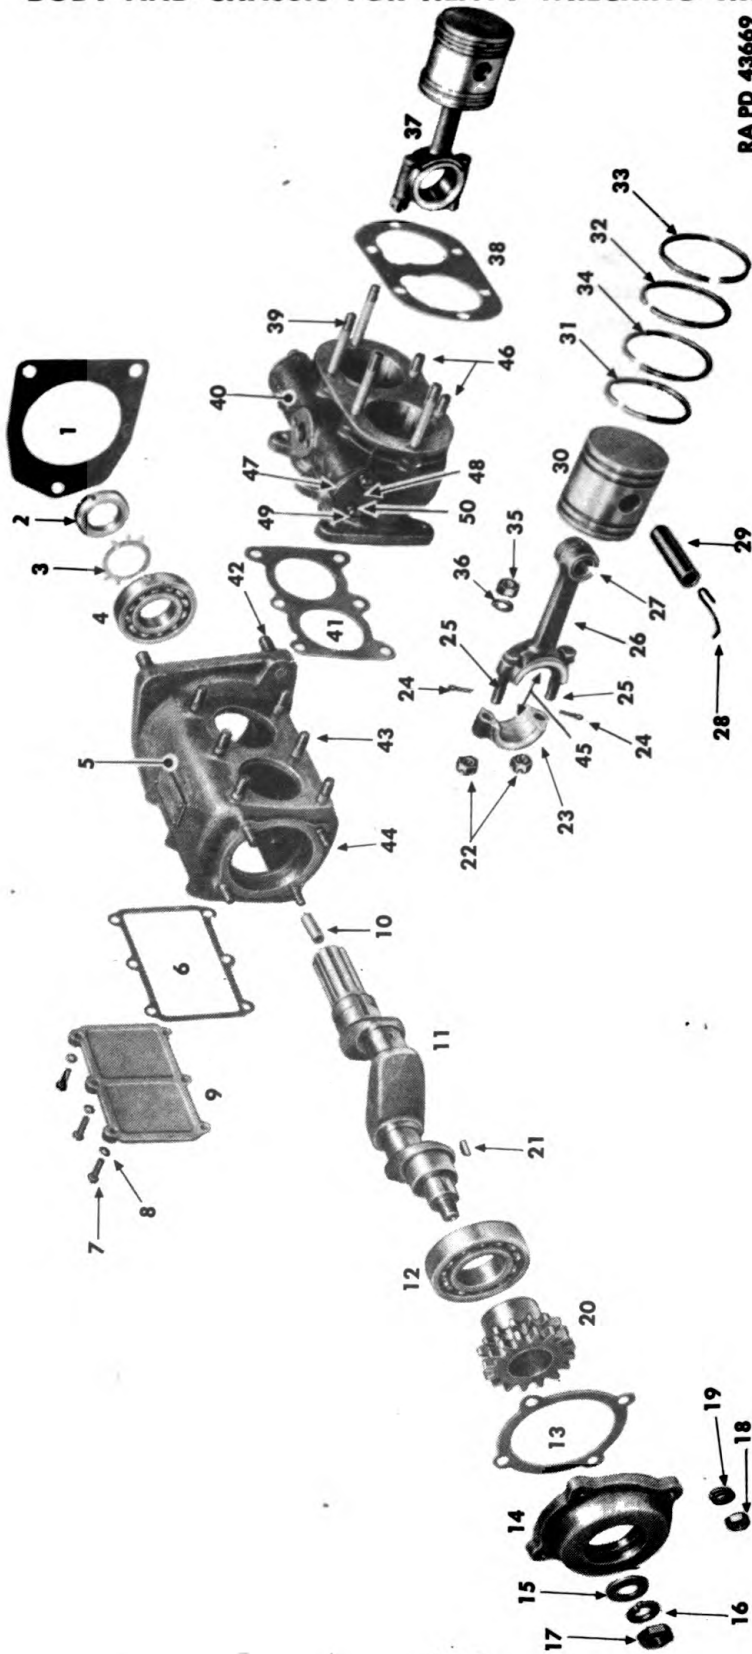

Figure 37 —Crankcase and Cylinder—Exploded View
(a) Install air manifold cover gasket (47, fig. 37) and air manifold cover (48, fig. 37). Fasten with two air manifold cover cap screw lock washers and cap screws (screwdriver).
(a) Install new cylinder to crankcase gasket (41, fig. 37) on crankcase and install cylinder on crankcase.
(a) Lubricate crankshaft front and rear ball bearings (4 and 12, fig. 37) with engine oil, and install crankshaft front ball bearing on crankshaft (hydraulic press). Install crankshaft in crankcase and press the crankshaft rear ball bearing in crankcase (hydraulic press).
(b) Tap crankshaft drive gear key (21, fig. 37) in crankshaft (soft hammer).
(c) Slide crankshaft drive gear flat washer (15, fig. 37) and crankshaft drive gear nut lock washer on rear end of crankshaft.
(d) Install new crankshaft rear bearing cap gasket (13, fig. 37), and install crankshaft rear bearing cap on crankshaft rear bearing cap studs.
(e) Install crankshaft drive gear (20, fig. 37) on crankshaft (hydraulic press). Install crankshaft drive gear nut (17, fig. 37) on rear end of crankshaft ($\frac{3}{4}$ -in. socket wrench).
(f) Slide crankshaft bearing nut lock (3, fig. 37) on front end of crankshaft and tap crankshaft bearing nut (2, fig. 37) on crankshaft (hammer and soft drift).
(j) Insert crankshaft oil metering pin (10, fig. 37) in front end of crankshaft. Make sure that end with small hole is outside, and end with large hole is inside, crankshaft.
(a) Install piston pin bushing (27, fig. 37) in upper end of connecting rod (hydraulic press). Recheck fit of piston pin in piston pin bushing (par. 61 b (7)).
(b) Using a piston ring installer tool, place a piston ring (tapered face, 31, fig. 37) in bottom groove of piston. Place a piston ring (straight face) in third groove of piston. Place a piston ring (tapered face) in